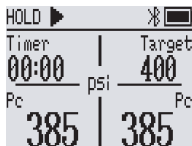

Figure 2 Enter the holding pressure test interface
2.Enter the holding pressure test : press the  and  button at the same time , the upper left corner of the window displays HOLD (Figure 2).